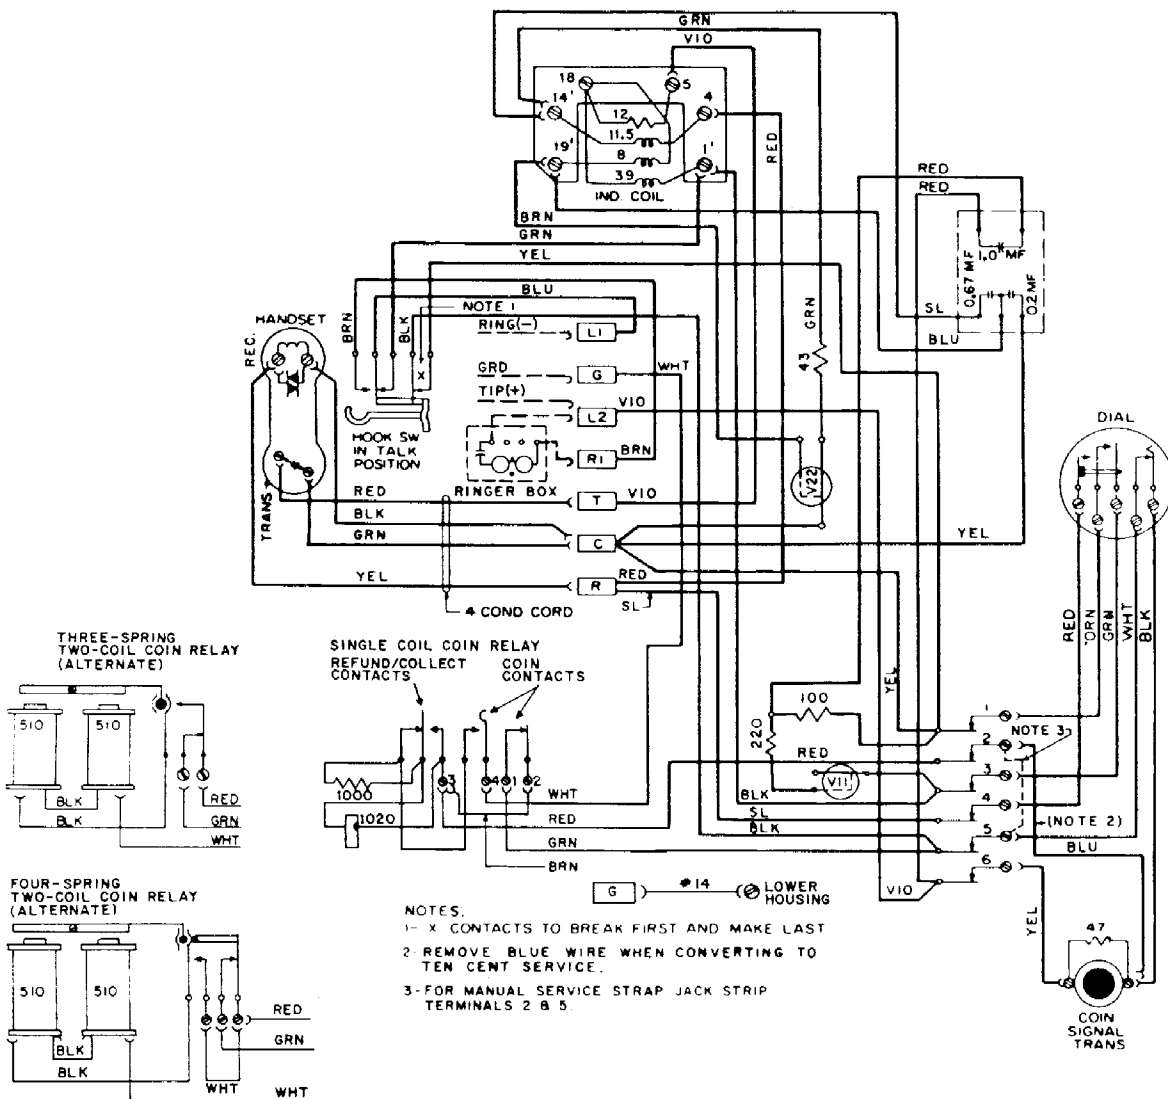
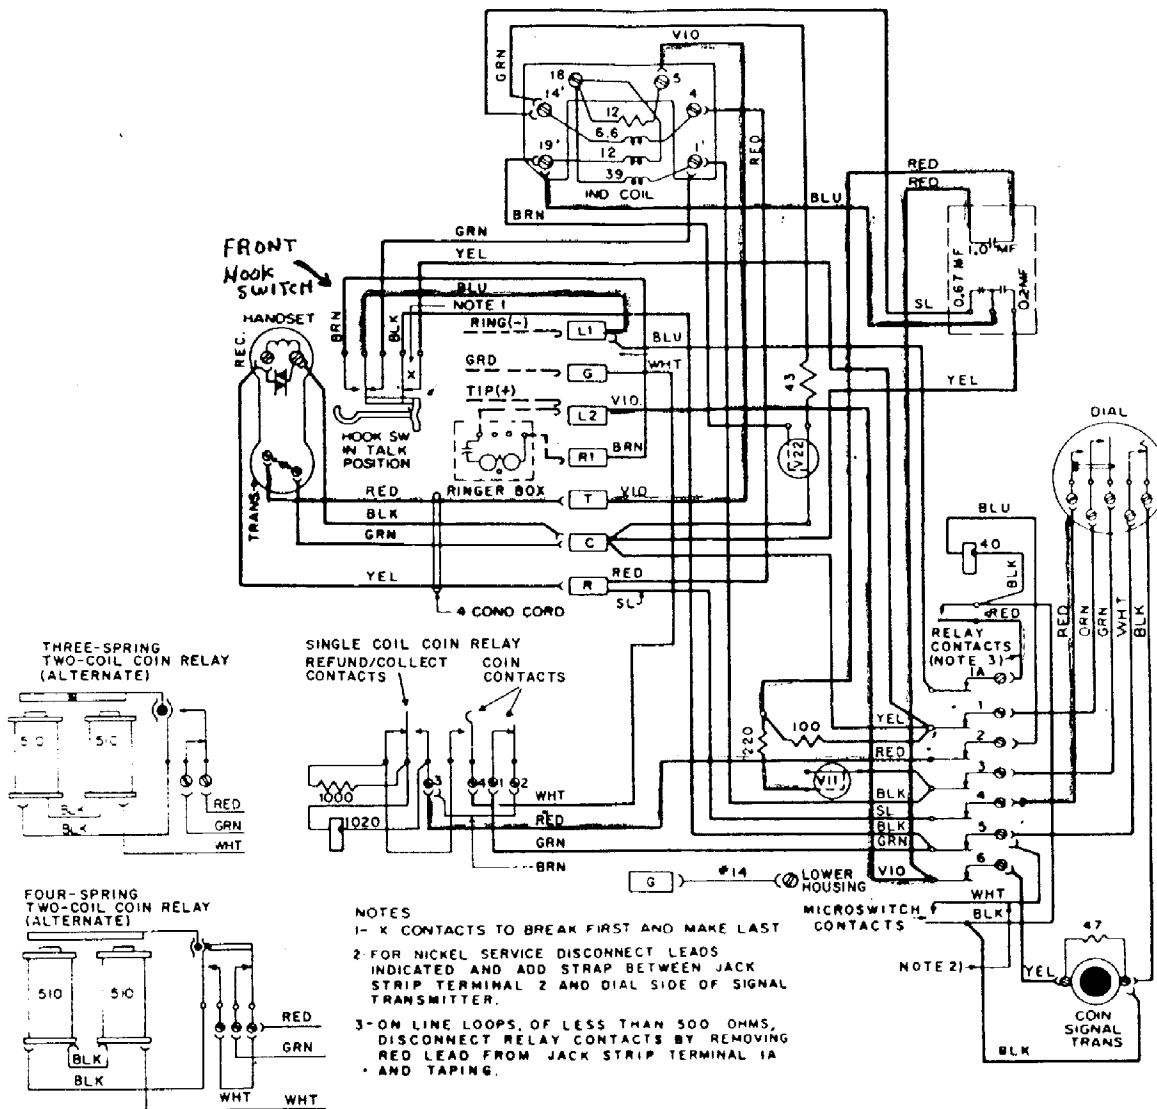
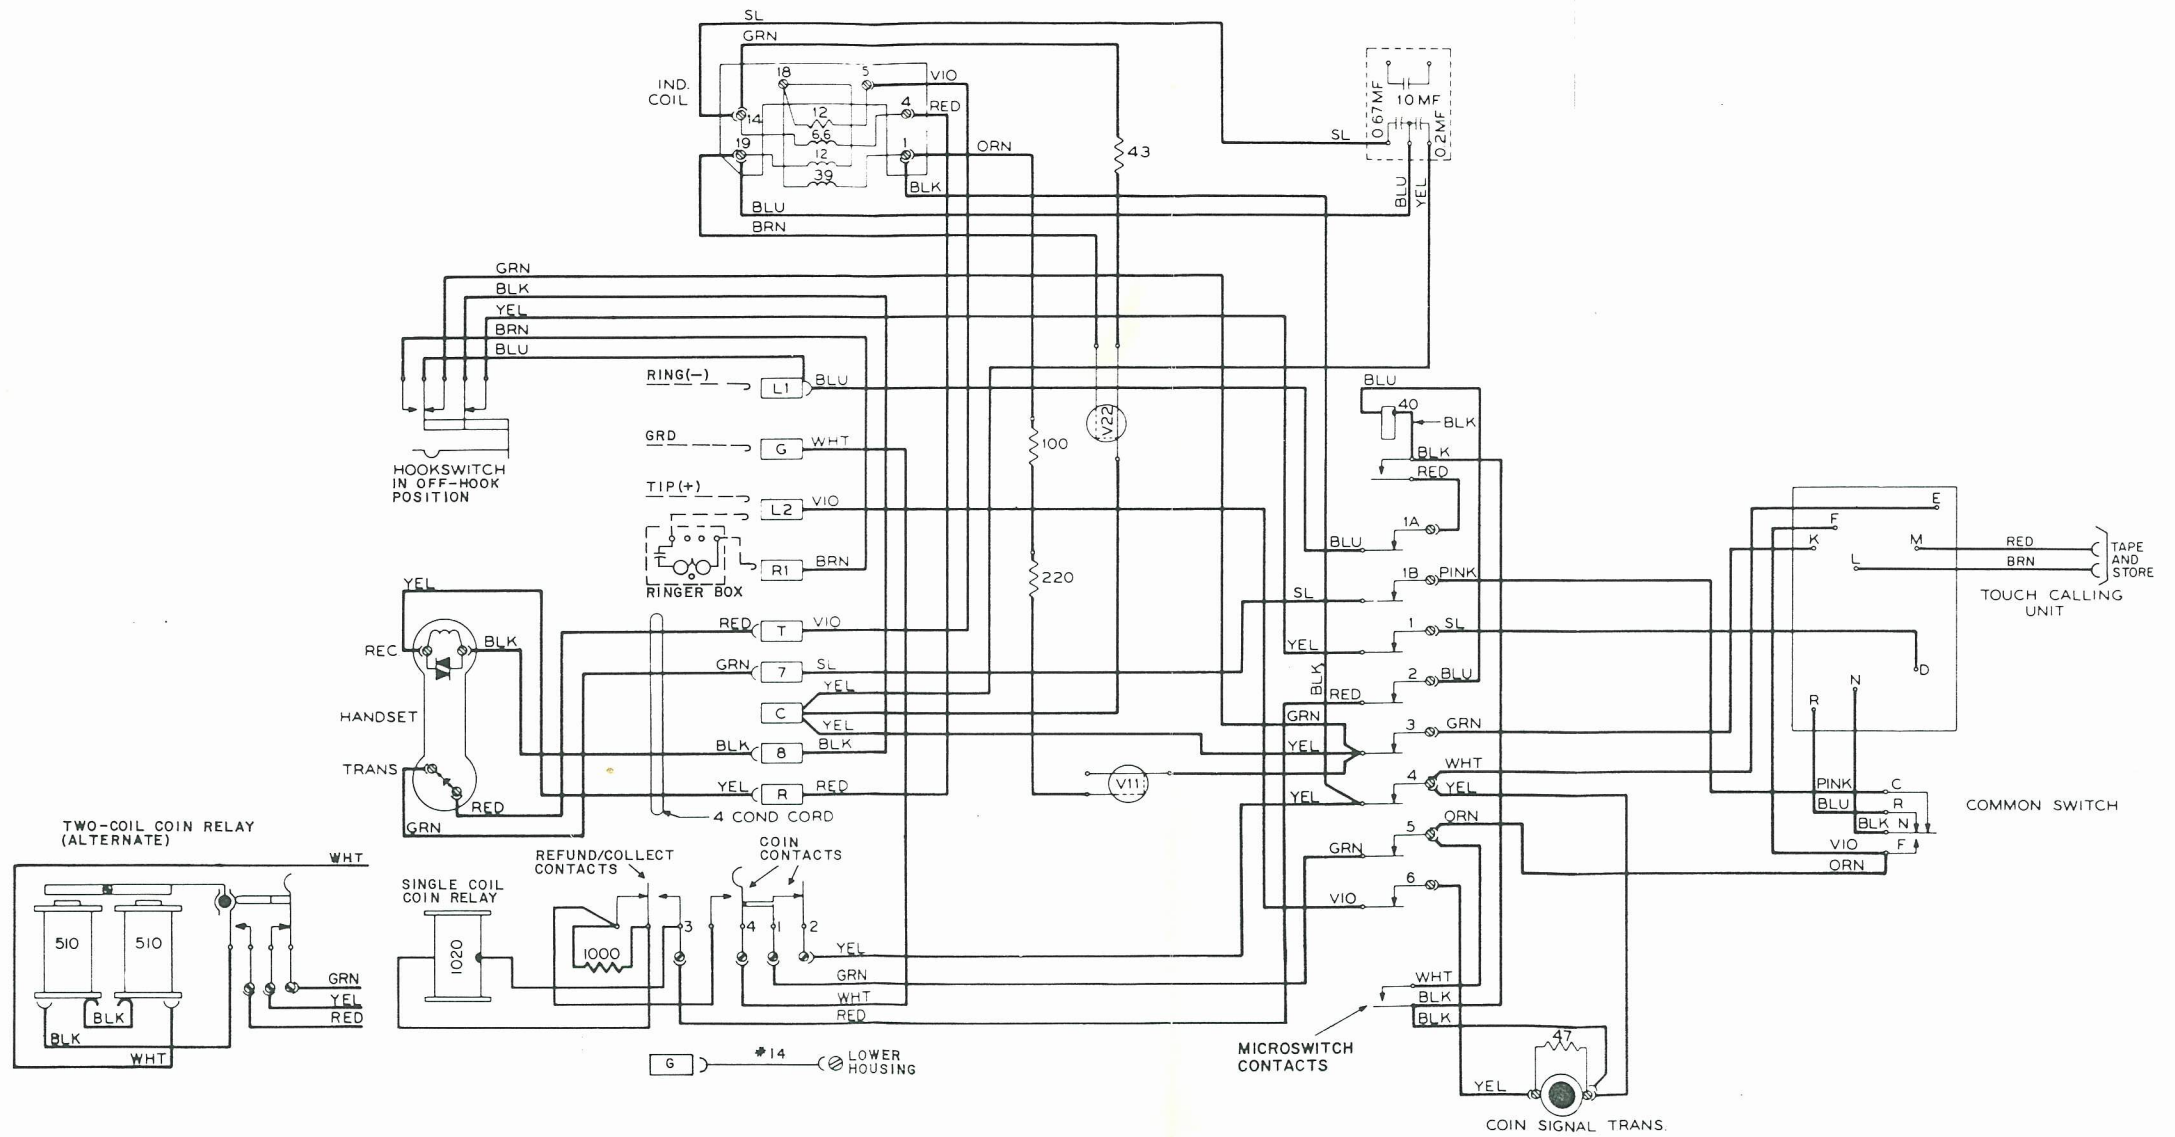
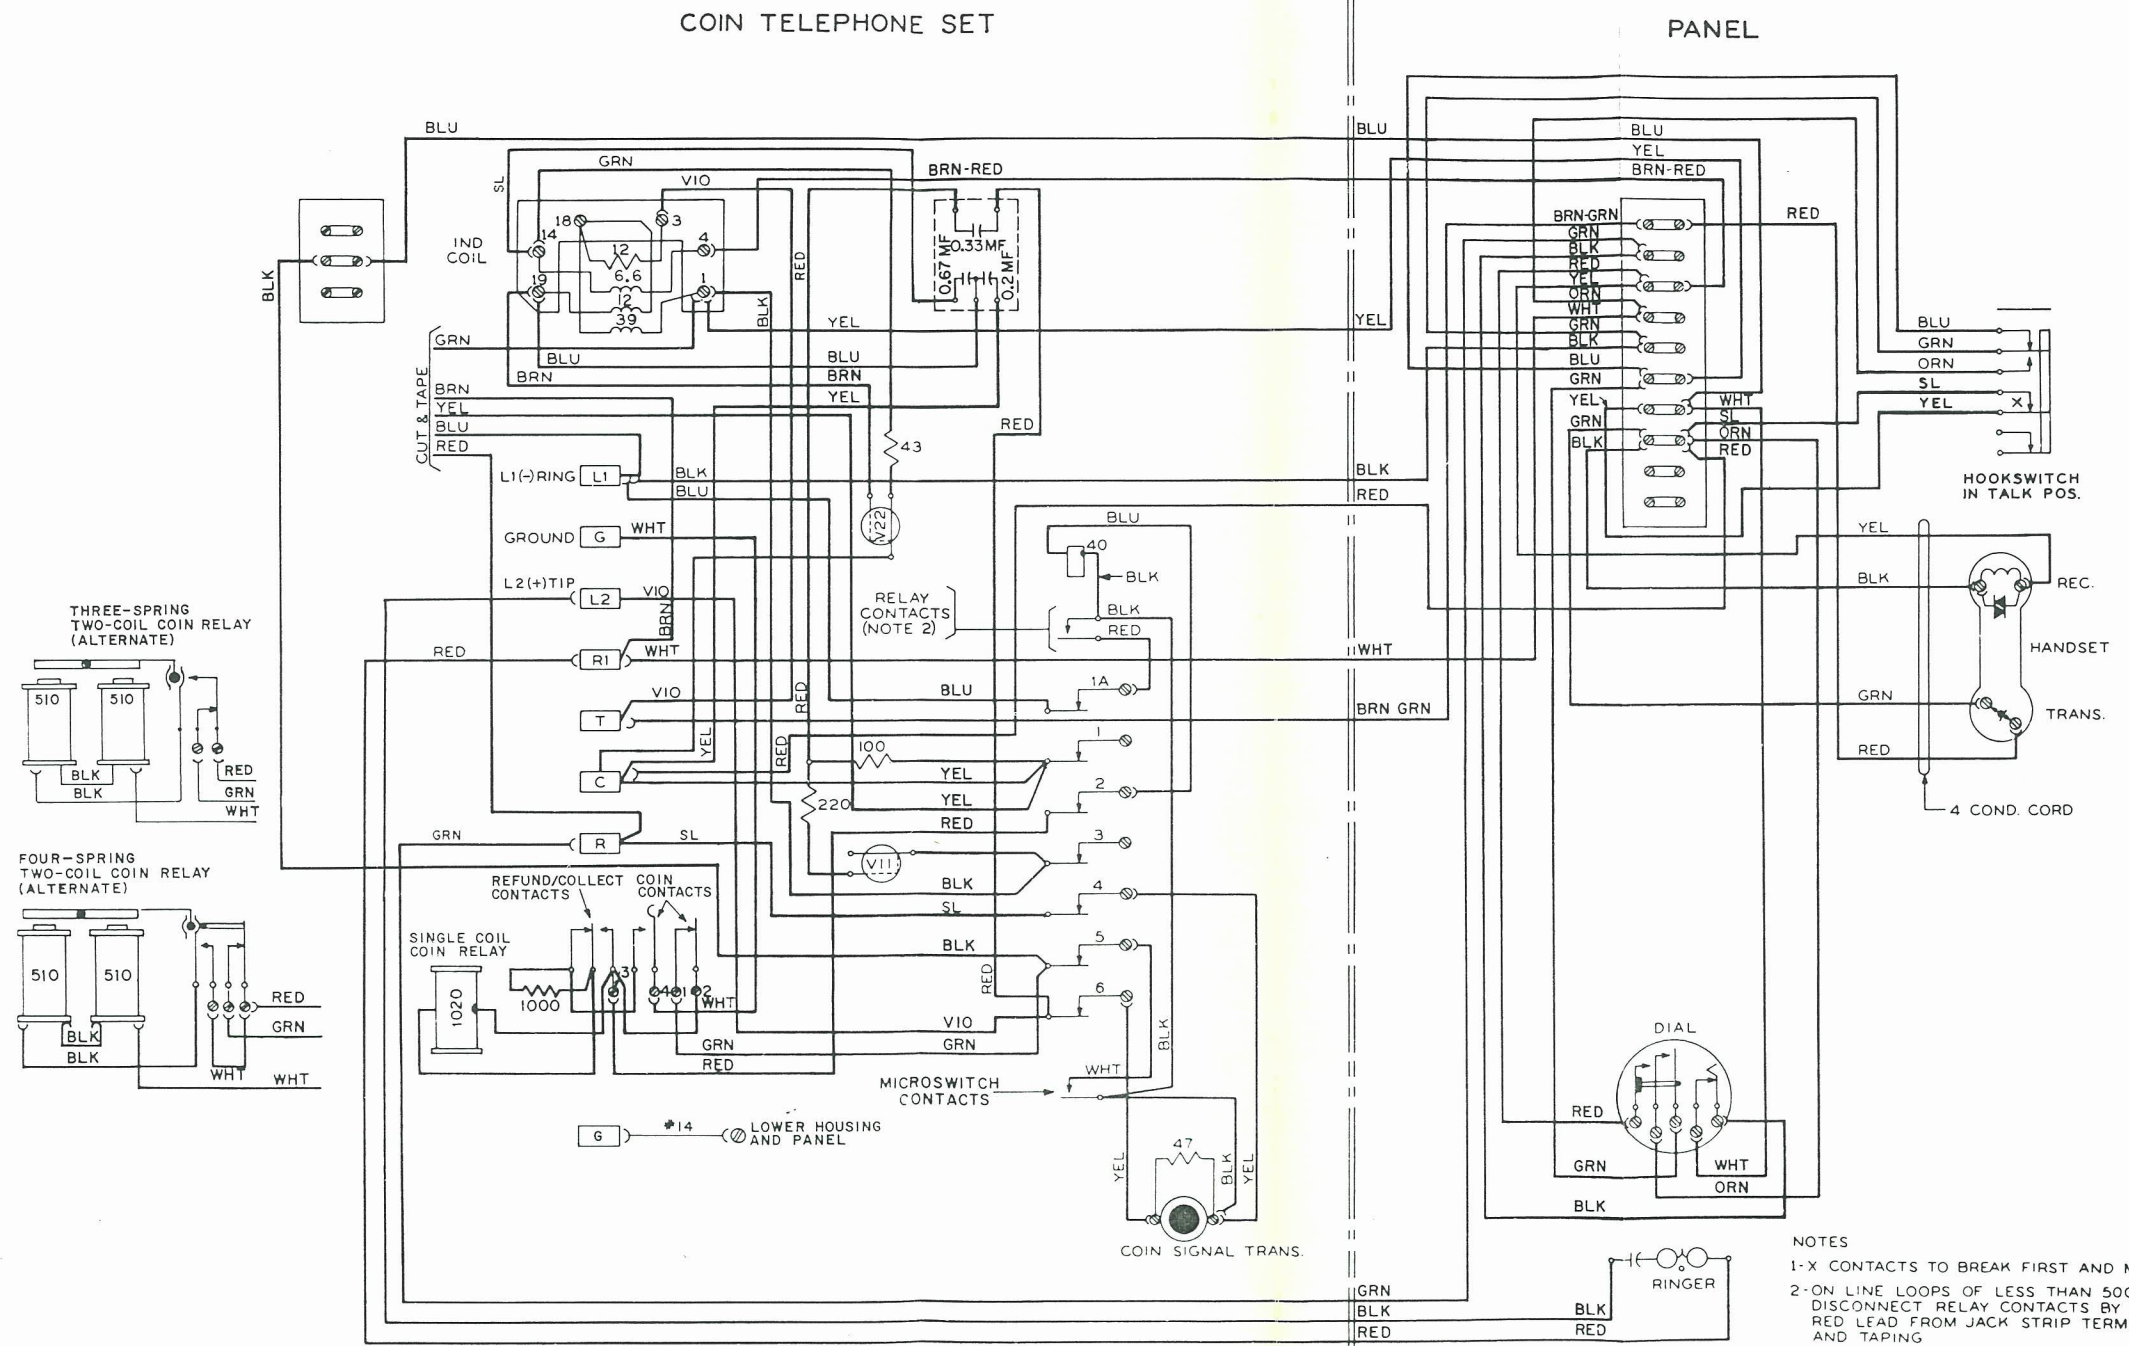

Figure 1. Wiring Diagram, LPB82 Coin Telephone Set.
Figure 2. Wiring Diagram, LPB82-55 Coin Telephone Set.
Figure 3. Wiring Diagram, LPB82-55 Coin Telephone Set for Touch Calling Service.
Figure 4. Wiring Diagram, LPB82-55 Coin Telephone Set Modified for Use With Type 101 Panel.
1.02 Figure 1 shows the wiring of the LPB82 set for single-nickel service in dial or manual offices, and Figure 2 the wiring of the LPB82-55 set, which requires a dime or two-nickel deposit. Figure 3 applies to a small number of factory-built and to shop-rebuilt sets based on the LPB82-55 (dial) assembly, but provided with a Touch Calling unit mounted in a stainless steel extension housing over the normal dial location. Figure 4 covers LPB82-55 instruments modified for mounting behind a Type 101 panel, and Figure 5 the same assembly arranged for Touch Calling service.